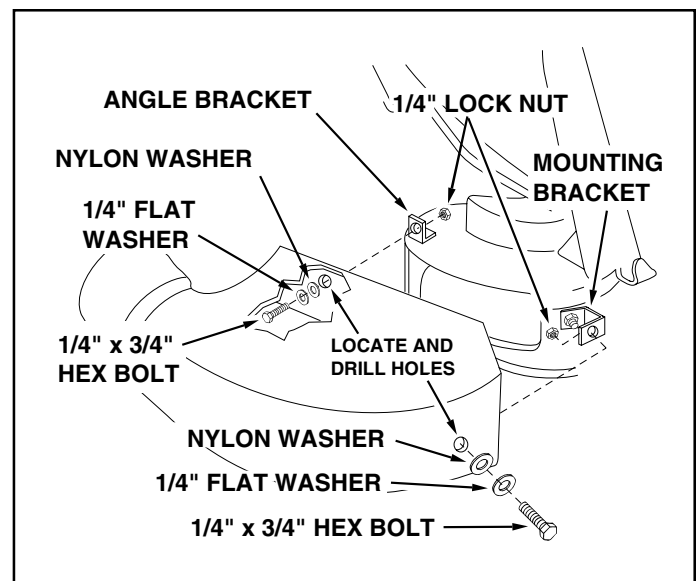

**FIGURE 29**
1. Cut out two templates and place on deck adapter as shown in figure 29. Tape smaller one on top and larger one on the side and bottom. After they are in place, carefully mark around the templates, then cut out adapter to obtain correct opening.
2. Bolt end of mounting strap to the 5/16" bolt on the mower deck. The other end of the strap will bolt to a hole in the deck adapter, which must be drilled. Position the adapter on the deck, then drill a 5/16" hole in the bottom of the adapter that will align with the hole in the strap. Fasten the adapter to the strap using a 1/4" x 3/4" hex bolt, 1/4" flat washer, nylon washer and 1/4" hex nut. See figure 29.